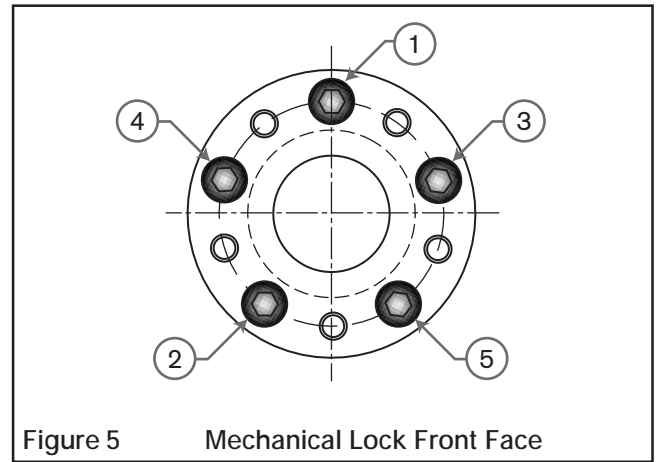

Figure 5 Mechanical Lock Front Face
3. Insert the inner race of the mechanical lock into the roller pinion bore with one screw hole in the 12 o'clock position (See Figure 5).
7. Equally tighten the lock bolts with 1/4 of the recommended tightening torque. Start tightening at the top bolt and alternate back and forth across the face in a star pattern until all five bolts are tightened (Refer to Figure 5 and Table 3).
4. Gradually loosen the mechanical lock bolts in the same order they were tightened (Refer to Figure 5).